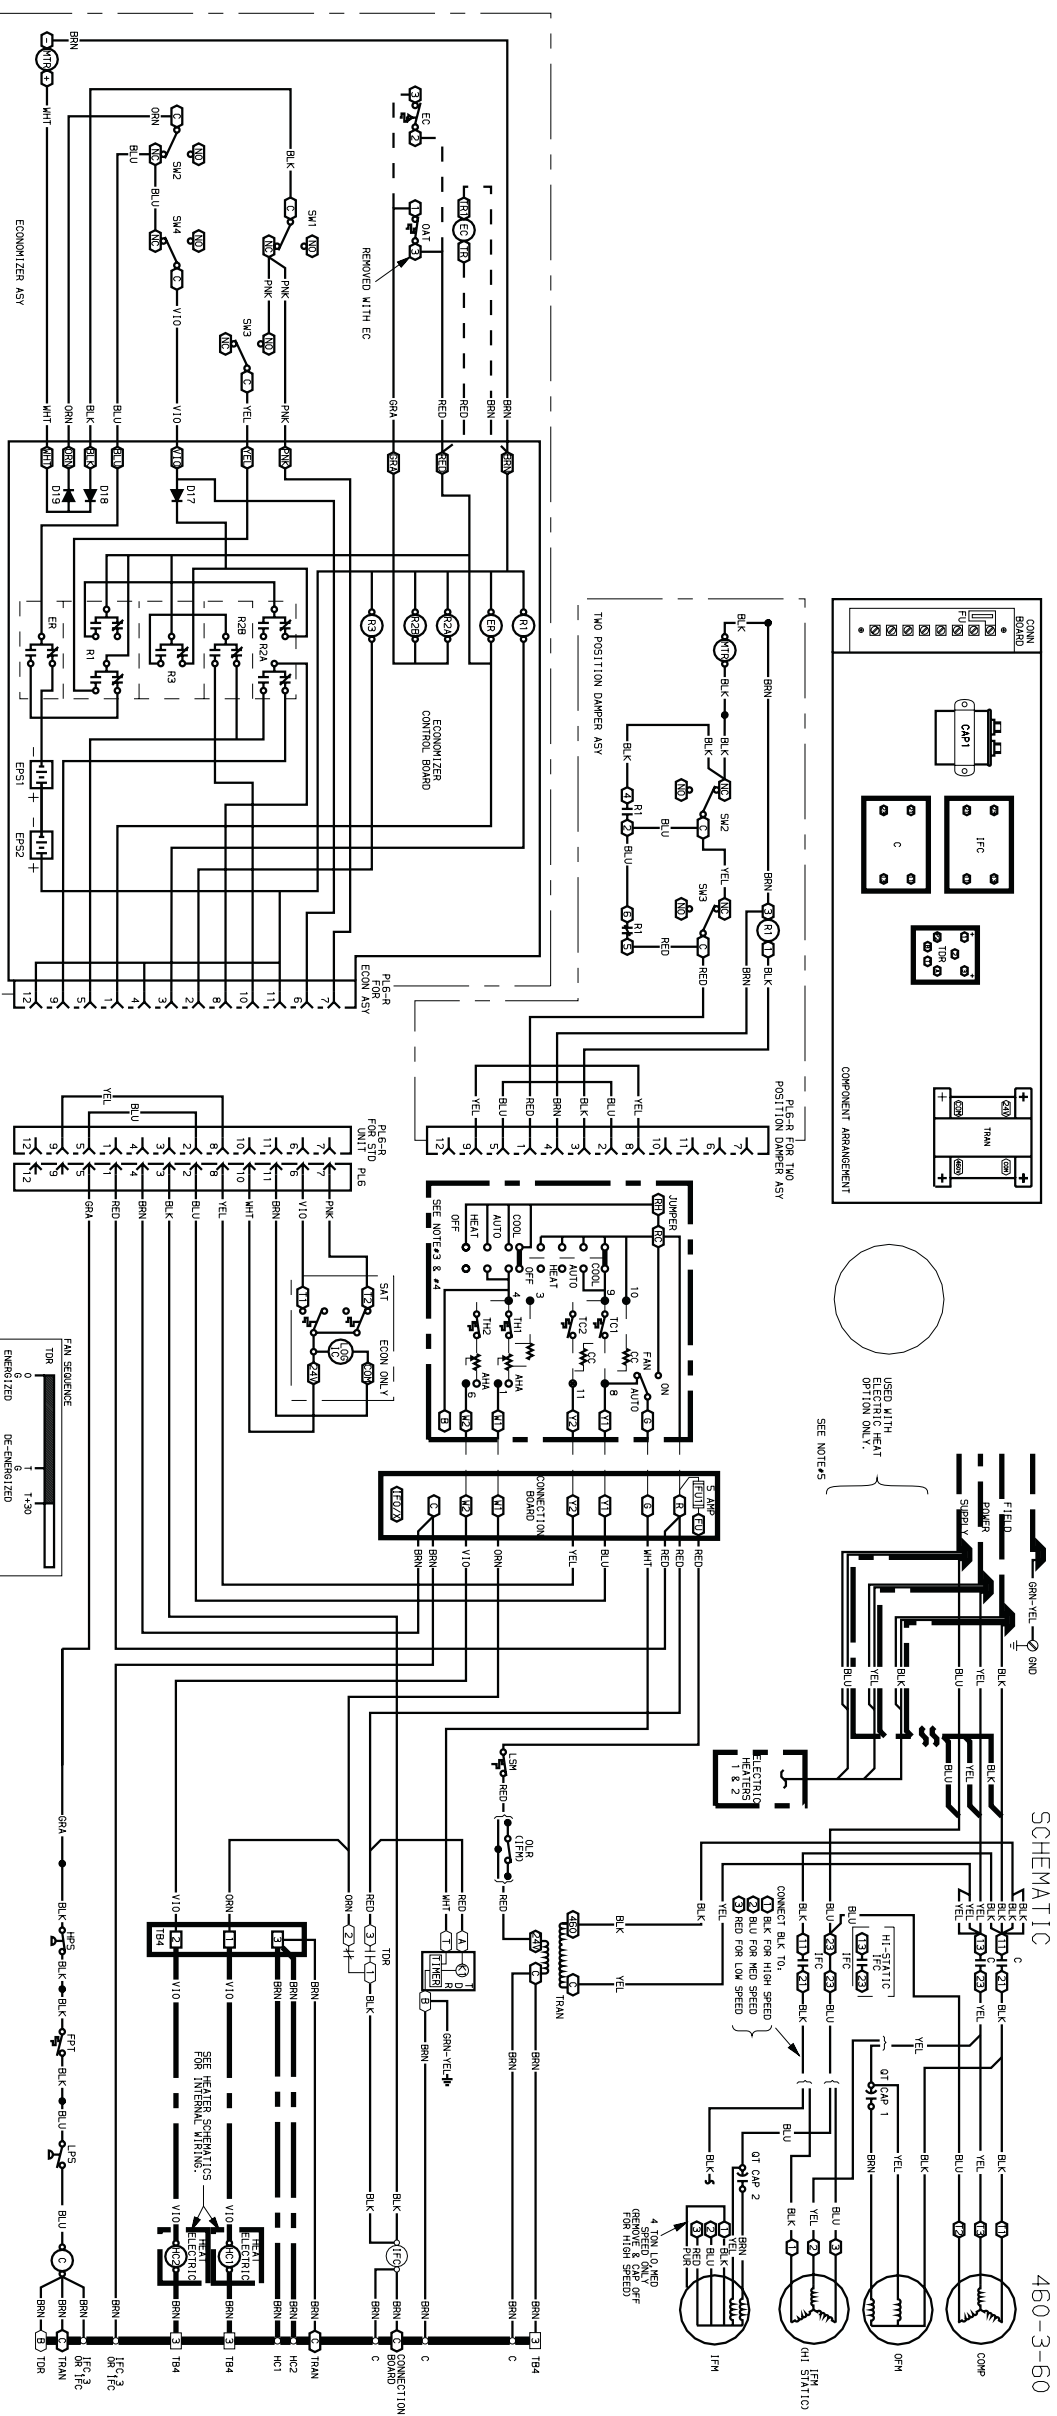

Fig. 3 — Schematic/Component Arrangement; 558F036, 048; 460-3-60
**NOTES FOR FIG. 3, 4, 7, 8, 10**